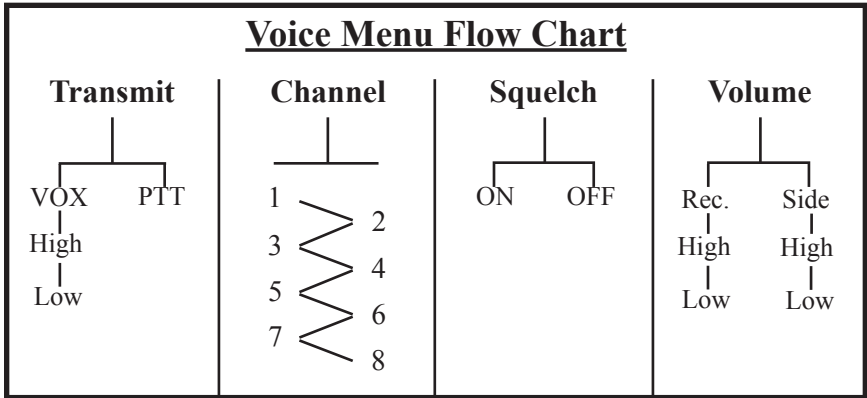

Figure 3. Voice menu flow chart
3.3.1 VOICE ADJUSTMENT MODE: The SSB-1001B and SSB-2010 have a unique feature that allows you to adjust the unit electronically either out of or in the water. If you depress the PTT button twice within one second, the transceiver enters a “Voice Adjustment Mode.” You will hear in your earphones a voice offering you the choices “*Transmit, Channel, Squelch, Volume.*” This message will continue until you make a selection by pressing the PTT button once when you hear your desired option. When completing your adjustments, you have the option to double- or triple-press the PTT button quickly. A double-click will directly exit the “Voice Adjustment Mode.” Your transceiver will be in the receive mode. A triple click will tell the transceiver to play back all settings in your earphone. You can triple-click at any time if you want to know all your settings (Fig. 3).